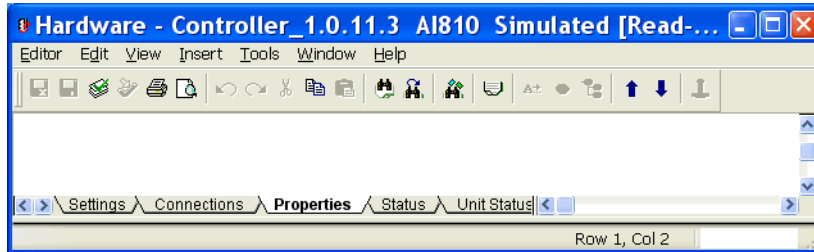

Figure 13. Example Properties Tab
6. These are the connections found on the property tabs accessed through Control Builder. Refer to Figure 13.